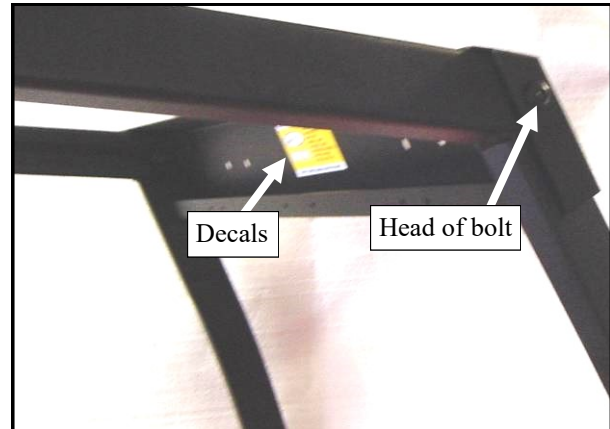

Fig. 3.1 (View from right side of tractor)
3.1 Per fig. 3.1, and with assistance, install the windshield support oriented so the decals are legible from the driver's seat. Use the following hardware to attach the support to each side frame: a 5/16" x 3/4" long hex flange bolt, plastic washer, and flange locknuts. Tip: the black plastic washers can be difficult to distinguish from the black steel washers. Use a magnet or look for round witness marks left on the plastic washers from the mold ejector pins. The heads of the bolts are to be outboard as shown (locknuts inside the cab). Do not tighten the bolts. Repeat for left side frame attachment.